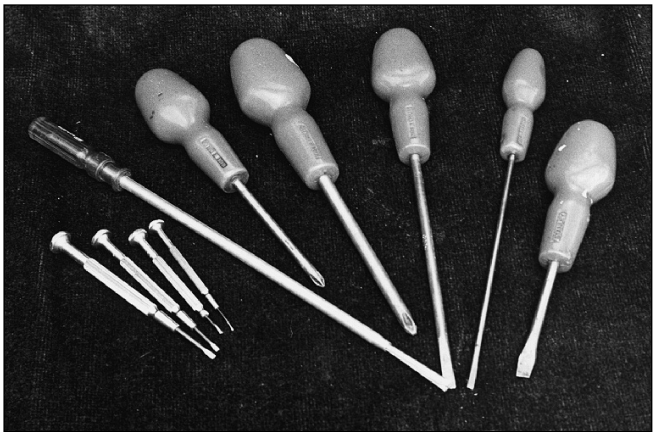

Fig 26.4: A selection of screwdrivers, including screw-holding type
- Screwdrivers (Fig 26.4). Minimum requirement: parallel flat blade 3.2 x 100mm, 5 x 150mm and similar sizes for the cross-head types of screw (Phillips™, Pozidriv™ etc). A set of watch or instrument makers' screwdrivers are very useful.